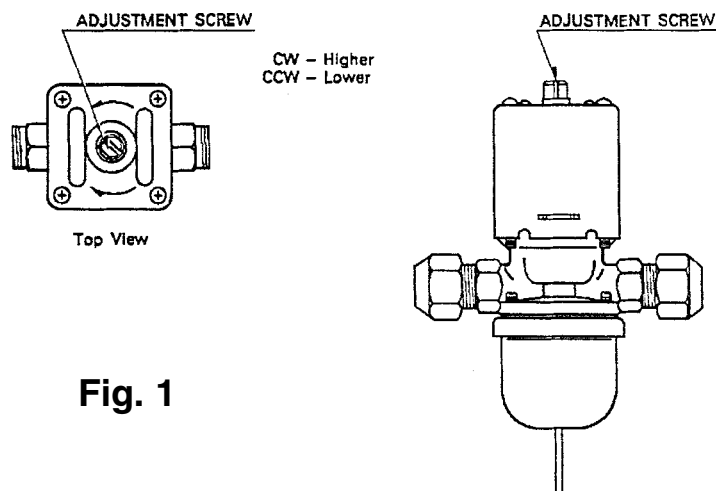

Fig. 1
- 2) Rotate the adjustment screw by using a flat blade screwdriver, so that the pressure gauge shows 270 PSIG or the thermometer reads 104-115 °F, 5 minutes after a freeze cycle or icemaking process starts. When the pressure exceeds 270 PSIG, or the condenser drain temperature exceeds 115° F, rotate the adjustment screw counterclockwise. See Fig. 1.